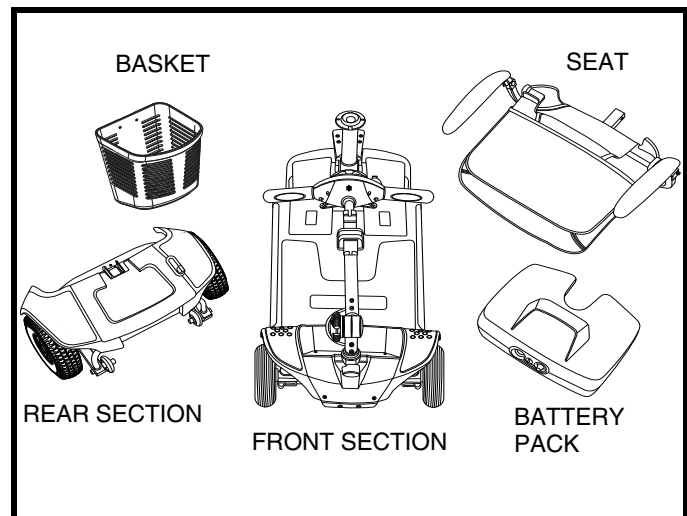

Figure 20. Disassembled Travel Scooter
You can disassemble the Travel Scooter into five pieces: the seat, the front section, the rear section, the basket, and the battery pack. See **figure 20**. No tools are required to disassemble or assemble your Travel Scooter. Always disassemble or assemble your Travel Scooter on a level, dry surface with sufficient room for you to work and move around—about 5 feet (1.5 meters) in all directions. Remember that some Travel Scooter components are heavy and you may need assistance when lifting them.
**NOTE:** Before attempting assembly, tilt the rear half of the Travel Scooter slightly back on the anti-tip wheels as show in figure 20.